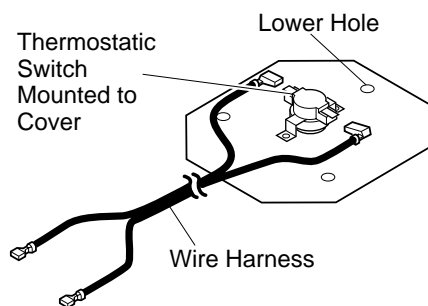

Figure 19 - Attaching Wire Harness to Thermostatic Switch and Cover Assembly
12. Locate thermostatic switch/cover plate assembly and wire harness supplied with blower. Attach wire harness terminals to terminals on thermostatic switch. Push firmly. Make sure the bottom hole of cover is on the opposite side from the wire harness (see Figure 19).
26. Peel off the backing paper and stick the supplied wiring diagram decal on the stove floor as shown in Figure 19.